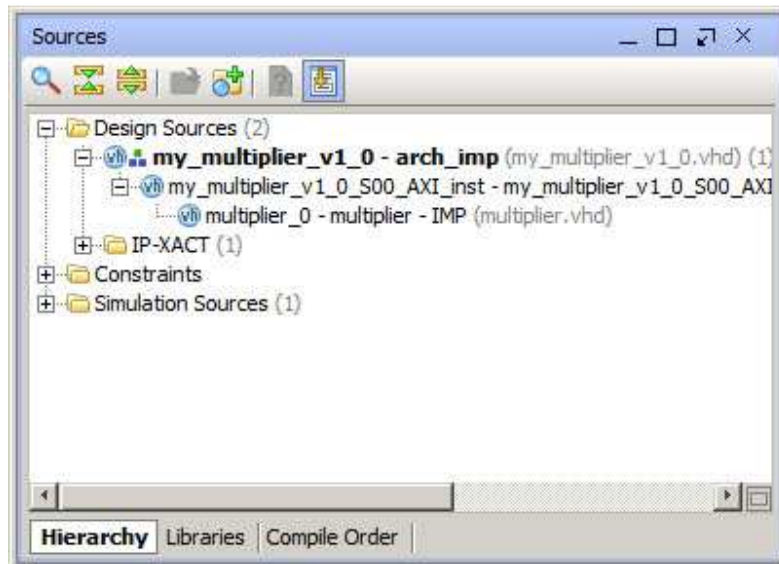

Figure 24: Sources Hierarchy
8. You should notice that the multiplier.vhd” file has been integrated into the hierarchy (as seen in **Figure 24**) because we have instantiated it from within the peripheral.